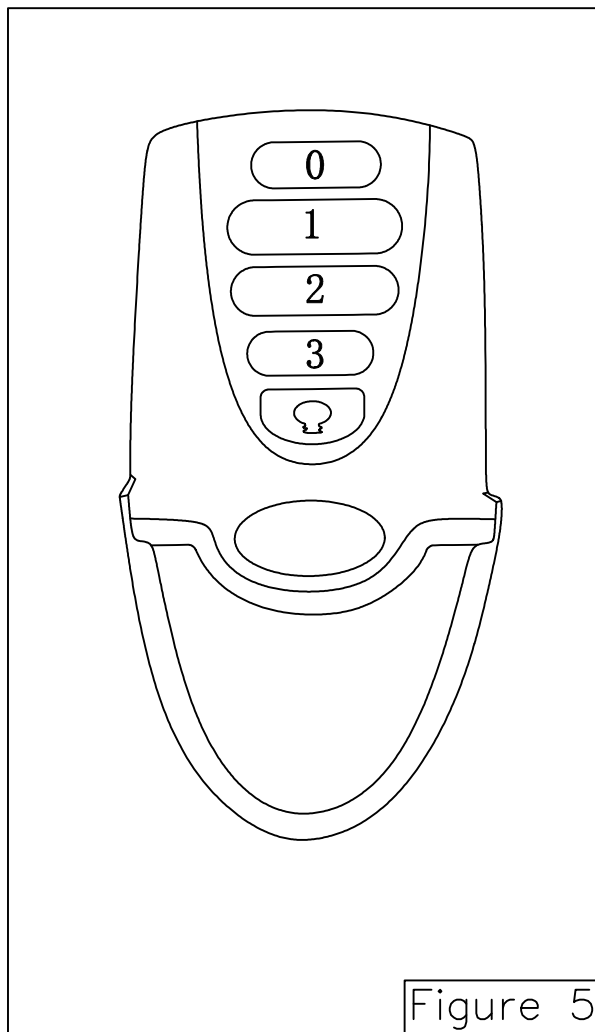

Figure 5
□ Remote functions: (Figure 5)